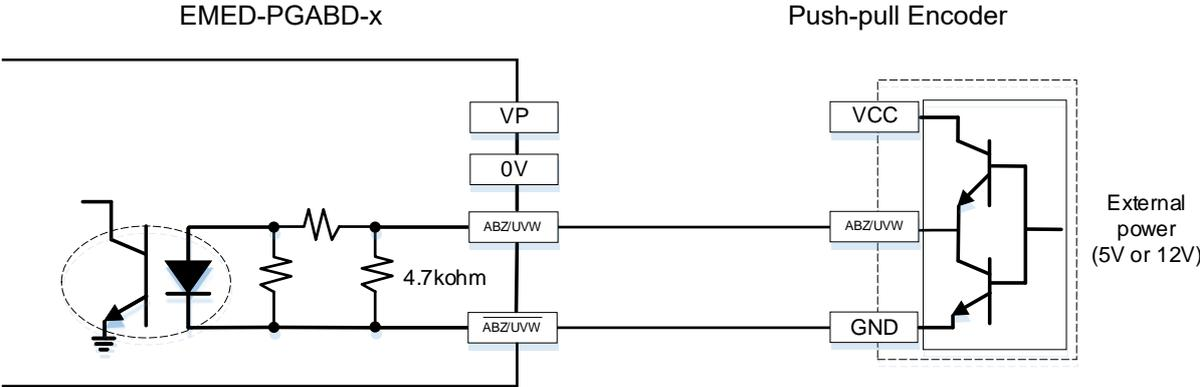

Figure 8
3. Push-pull output encoder application: Each set of input current is 5–15 mA. If input voltage uses 5V or 12V external power, see the PG wiring Figure 8 below.